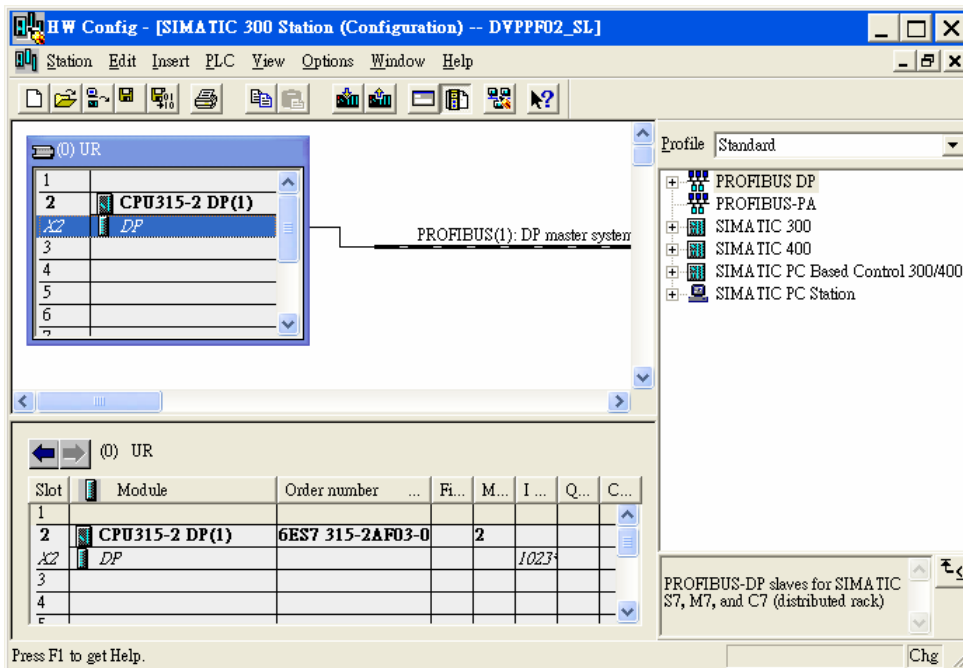

Figure 10-16
8. After all the parameters are set, a PROFIBUS DP bus will be created after the UR window, as Figure 10-16.